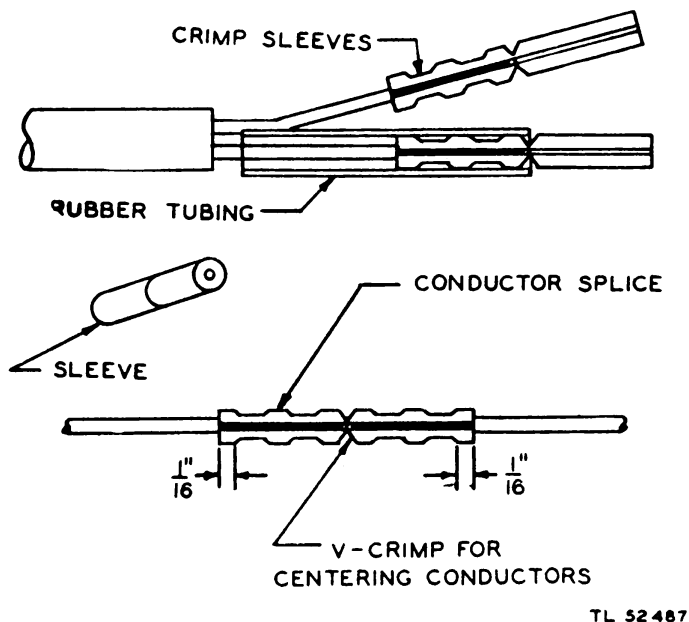

Figure 8. Method of splicing conductors with sleeves.
(4) To fasten the conductors together with bronze splicing sleeves (No. O36-A, 19-20 B&S gauge), place a sleeve on a conductor by inserting the conductor halfway into the sleeve and crimping the sleeve with crimping pliers No. 17-2 (fig. 8). Do not crimp the sleeve closer than $\frac{1}{16}$ inch from the end, or the conductor will be weakened (fig. 8). Cut a length of pre-vulcanized rubber tubing $1\frac{1}{4}$ inches long, slip it over the conductor, and crimp half of the sleeve. Insert the matching conductor from the opposite end of the cable and crimp the sleeve on this conductor. Center the rubber tubing on the splicing sleeve and press the spliced conductor against the taped jute core (fig. 6 (E)). Repeat this procedure until all the conductors have been spliced and insulated.